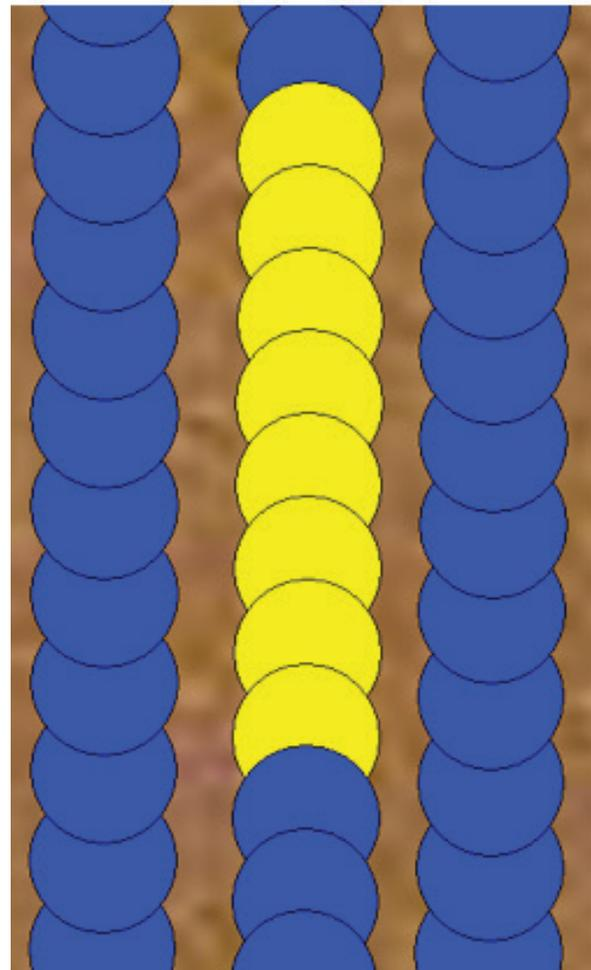

Fig. 1. Yield data points depicting full (20 ft) header width (blue) and incorrect partial 17.5 ft. header widths (yellow).
The consequence of inadvertent and erroneous header width changes on yield estimates can be quite significant. Figure 1 illustrates a small section of a field where the yield
- Some, but not all, mapping software programs allow you to map the logged data by their header / swath width values. That allows you to visualize the header width changes throughout the field as illustrated in Fig. 1.